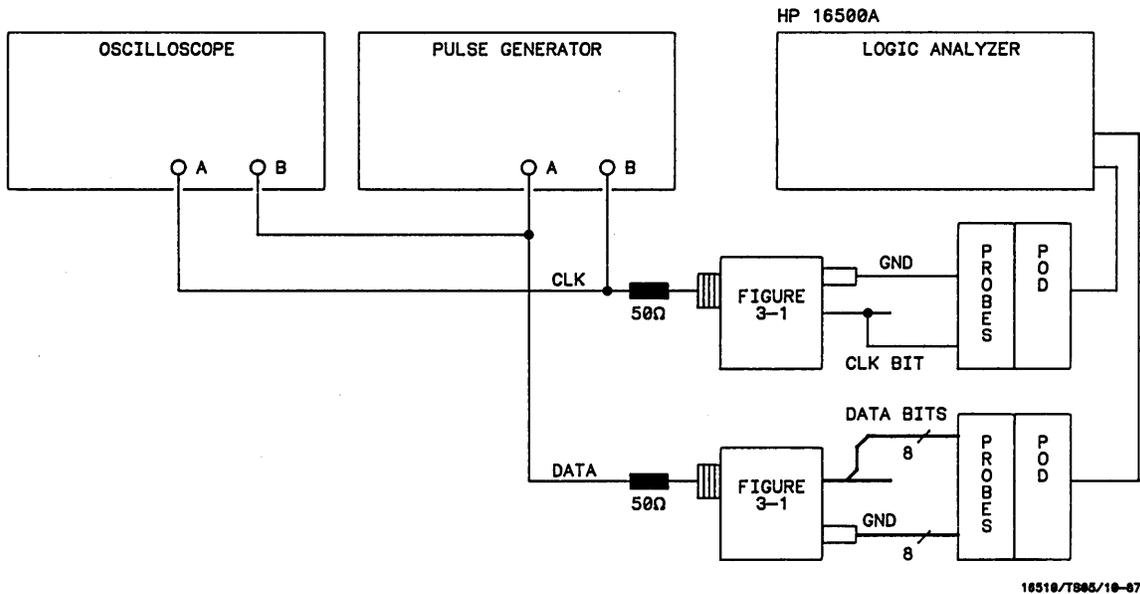

Figure 3-21. Setup for Clock, Qualifier, and Data Inputs Test 5
1. Connect the HP 16510A and test equipment as in figure 3-21.